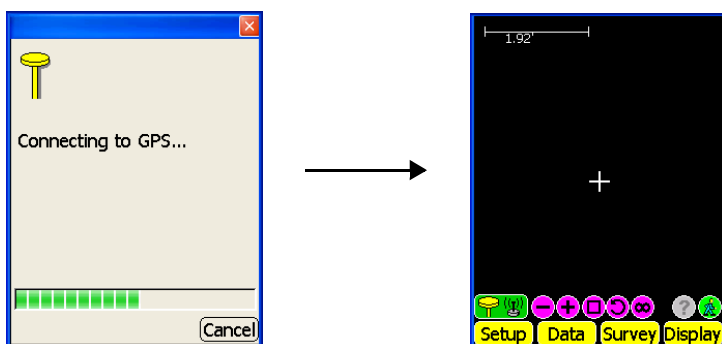

Figure 4-13. Pocket-3D Connecting to GPS Receiver
7. After Pocket-3D connects to the GPS+ receiver, the main screen displays. Check that the GPS Status button is green (Figure 4-13).